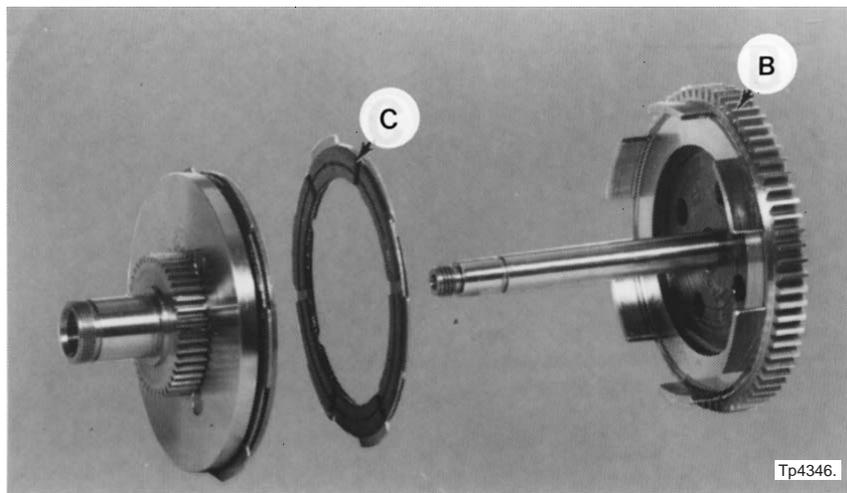

Figure 1.19 - Cross Feed Clutch Components
- b) Remove shaft and 70 tooth gear "B", Figure 1.19 .
- b) Replace clutch plate “C”, Figure 1.19 .